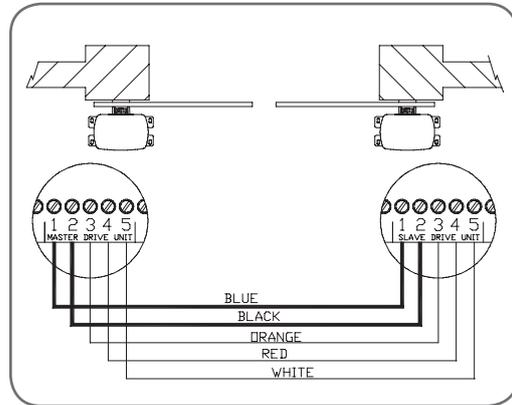

fig 07
When dual gates are to be used the master and slave openers are connected via a five (5) wire cable (**Fig. 07**). Ensure that each end of the cable passes through a suitable cable gland which in turn is securely tightened to prevent ingress of dust, pests and water.